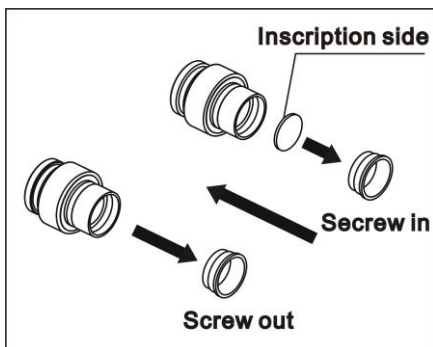

Fig 5
- (1) Take off the mounting ring from eyepiece. (Fig 5)
- (2) Clean the micrometer and mount it into mounting ring, make sure the inscription side up. (Fig 5)
- (3) Mount the mounting ring into eyepiece.
- (4) To remove the micrometer, please take off the mounting ring first. Then take out the micrometer and wrap it with clean and soft paper for storage.